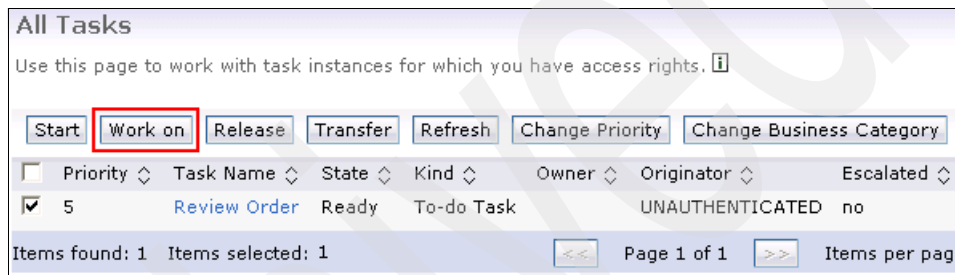

Figure 5-94 Clicking Work on to work on human tasks
6. In the All Tasks panel (Figure 5-94), select a task and click **Work on**.